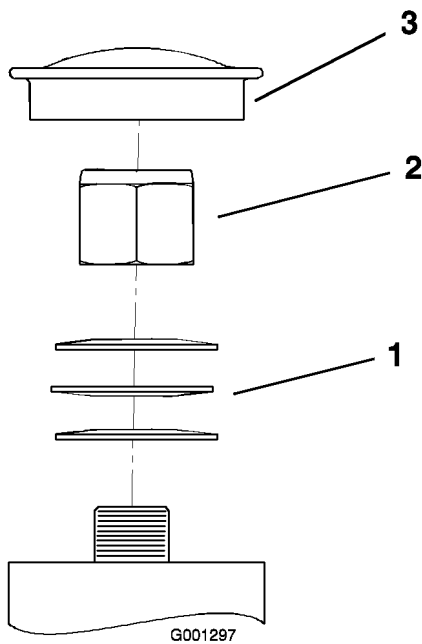

Figure 56
3. Remove the dust cap from caster and tighten lock nut (Figure 56).
4. Tighten the locknut until the spring washers are flat and then back off a 1/4 turn to properly set the pre-load on the bearings (Figure 56).
- Important: Make sure spring washers are installed correctly as shown in Figure 56.**
5. Install the dust cap (Figure 56).